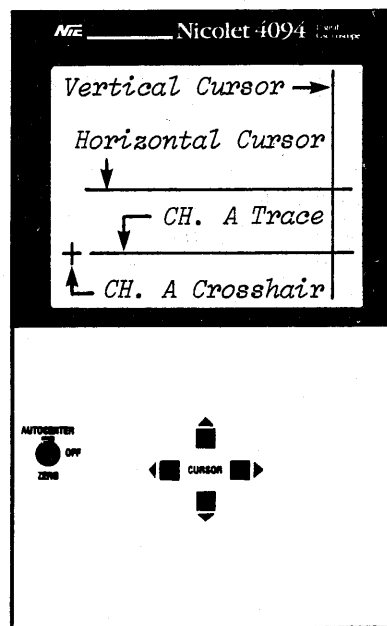

Figure 6-4
After the left hand plug-in's LIVE button has been pressed, the screen will display a vertical and horizontal cursor, a trace, and a small trigger crosshair associated with channel A (Figure 6-4).
- #3. Manipulate the UP/DOWN and LEFT/RIGHT cursor controls (Figure 6-4) while observing the time and voltage numerics.
- #4. Place the AUTOCENTER switch to the Autocenter position (Figure 6-4).